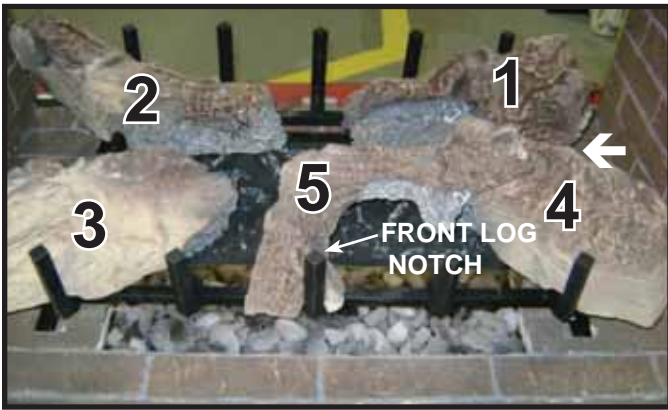

Figure 12
**LOG NUMBER 5 (SRV2146-705):** Place Log #5 from side of unit where pilot is located on your right side. Place log so the front log notch engages the center grate tine as shown in Figure 12 and the right side of log rests on the notch in Log #4. See Figure 11. The notch is visible in Figure 11. The log must **NOT** block or sit directly over any burner ports.